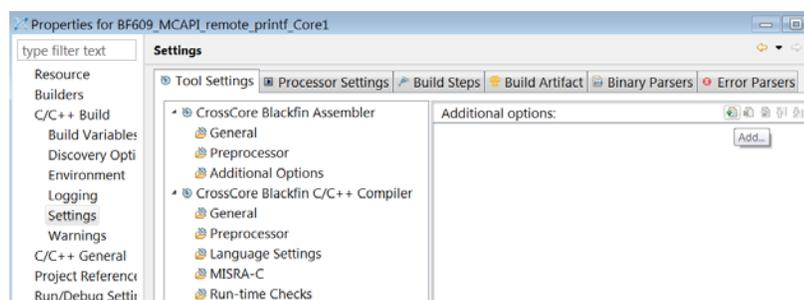

Figure 29. Setting Additional Options in the Loader Settings Window
7. In the **Additional options** pane, click the **Add...** icon in the header bar, as shown in Figure 29: